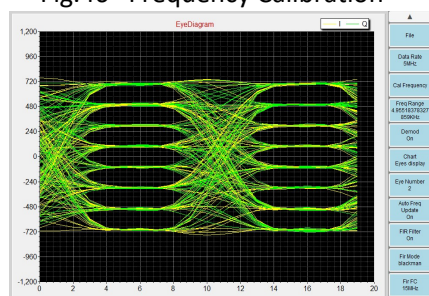

Fig.49 64QAM eyes diagram
- **Eye Diagram:** Select *Eyes Diagram* to display the eye pattern (see Fig. 49). Changing the number of eyes will update the display accordingly.